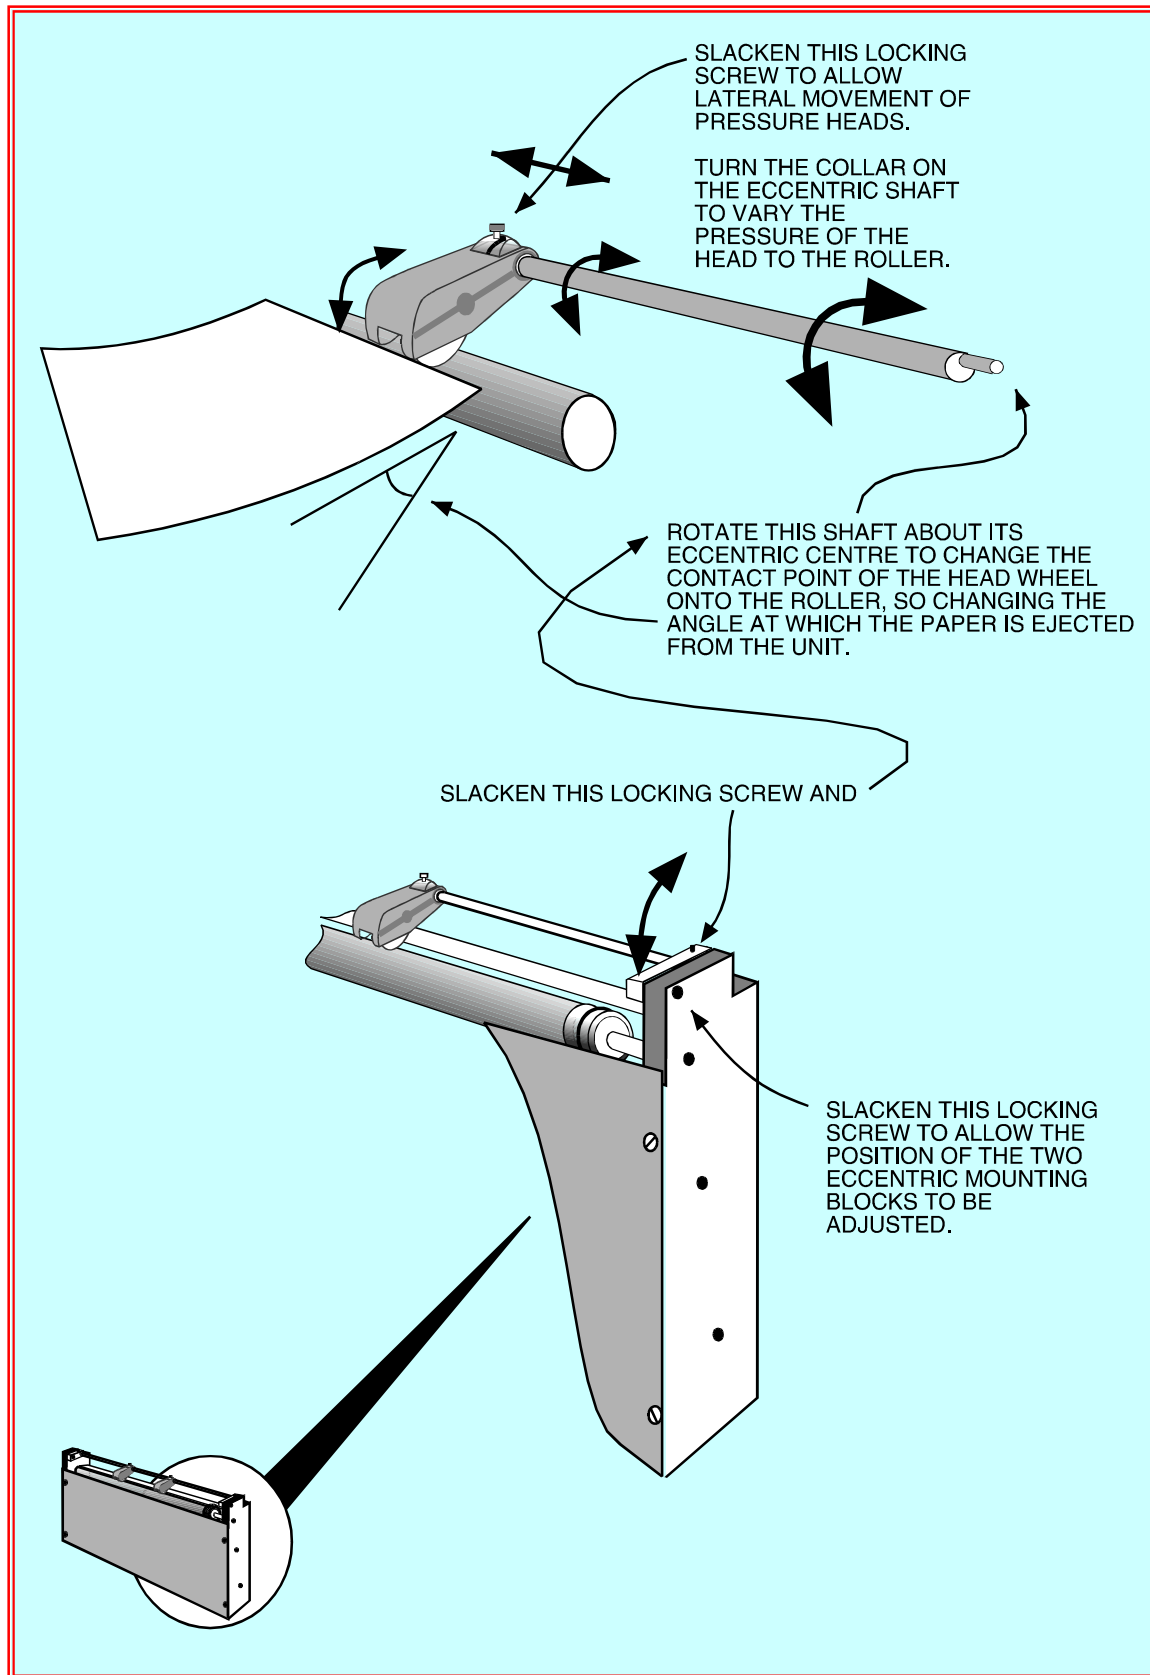

Fig 1.3 Operational Adjustments
- Having set up the outfeed accelerator unit as in Installation above, adjust the pressure heads for paper width, angle of fire and pressure as shown on Fig 1.3.